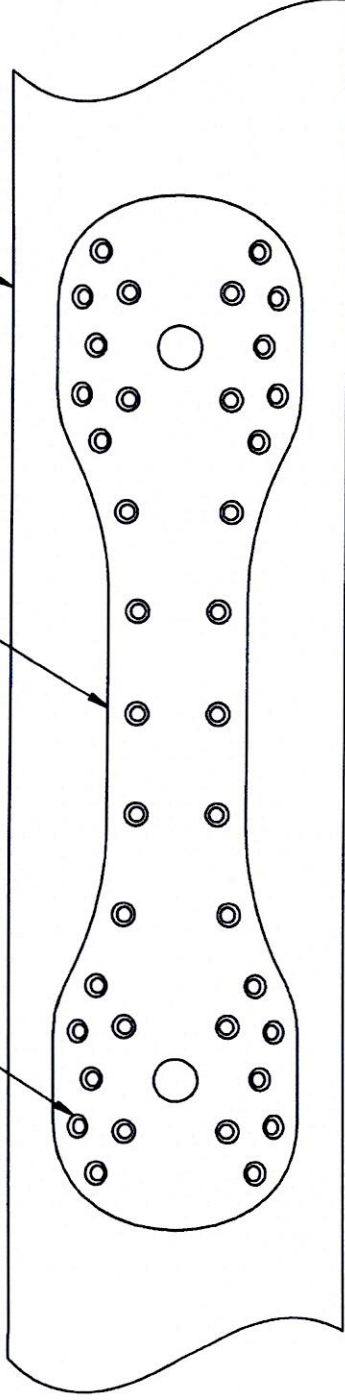

FIGURE 3
- 2.6 Transfer mark Qty (38) holes from each doubler to the skidtube and ensure there is a minimum edge distance of 0.241" (6.1mm) between the edge of the elongated hole and the center of the transfer mark. Reference Figure 3 of this service instruction.
- 2.17 Using CR3524-5-3 Rivets, secure both doublers to the skidtube. Reference Figure 3 of this service instruction